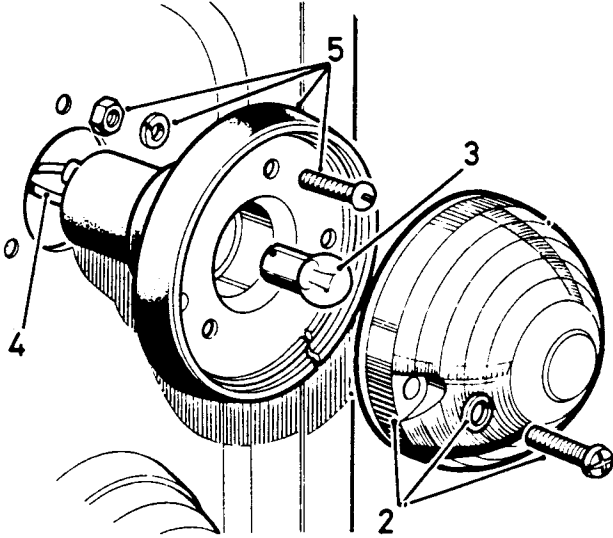

Fig O5.11
(2) Refer to Fig O5.11. Remove the lamp lens (2) after removing the two cross-head bolts and washers.
(3) If required, remove the bulb (3).
(4) Disconnect the lamp leads at the snap connectors (4) in the engine compartment.
(5) Remove the fixings (5) and pull out the lamp body.